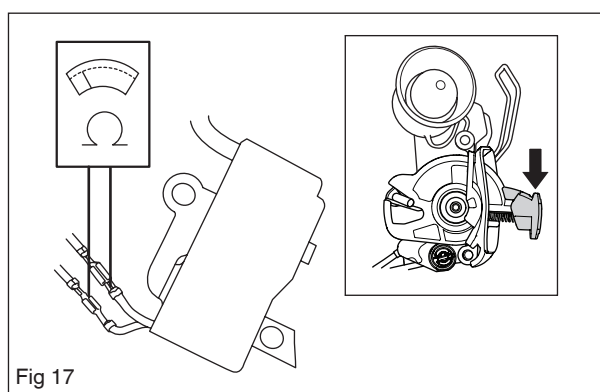

Fig 17
The power switch must be in the “on” position to get the correct reading. See figure 17.
8. The stop switch is in the “on” position when the button is held down (see figure 17) and in the “off” position when the button is in neutral.